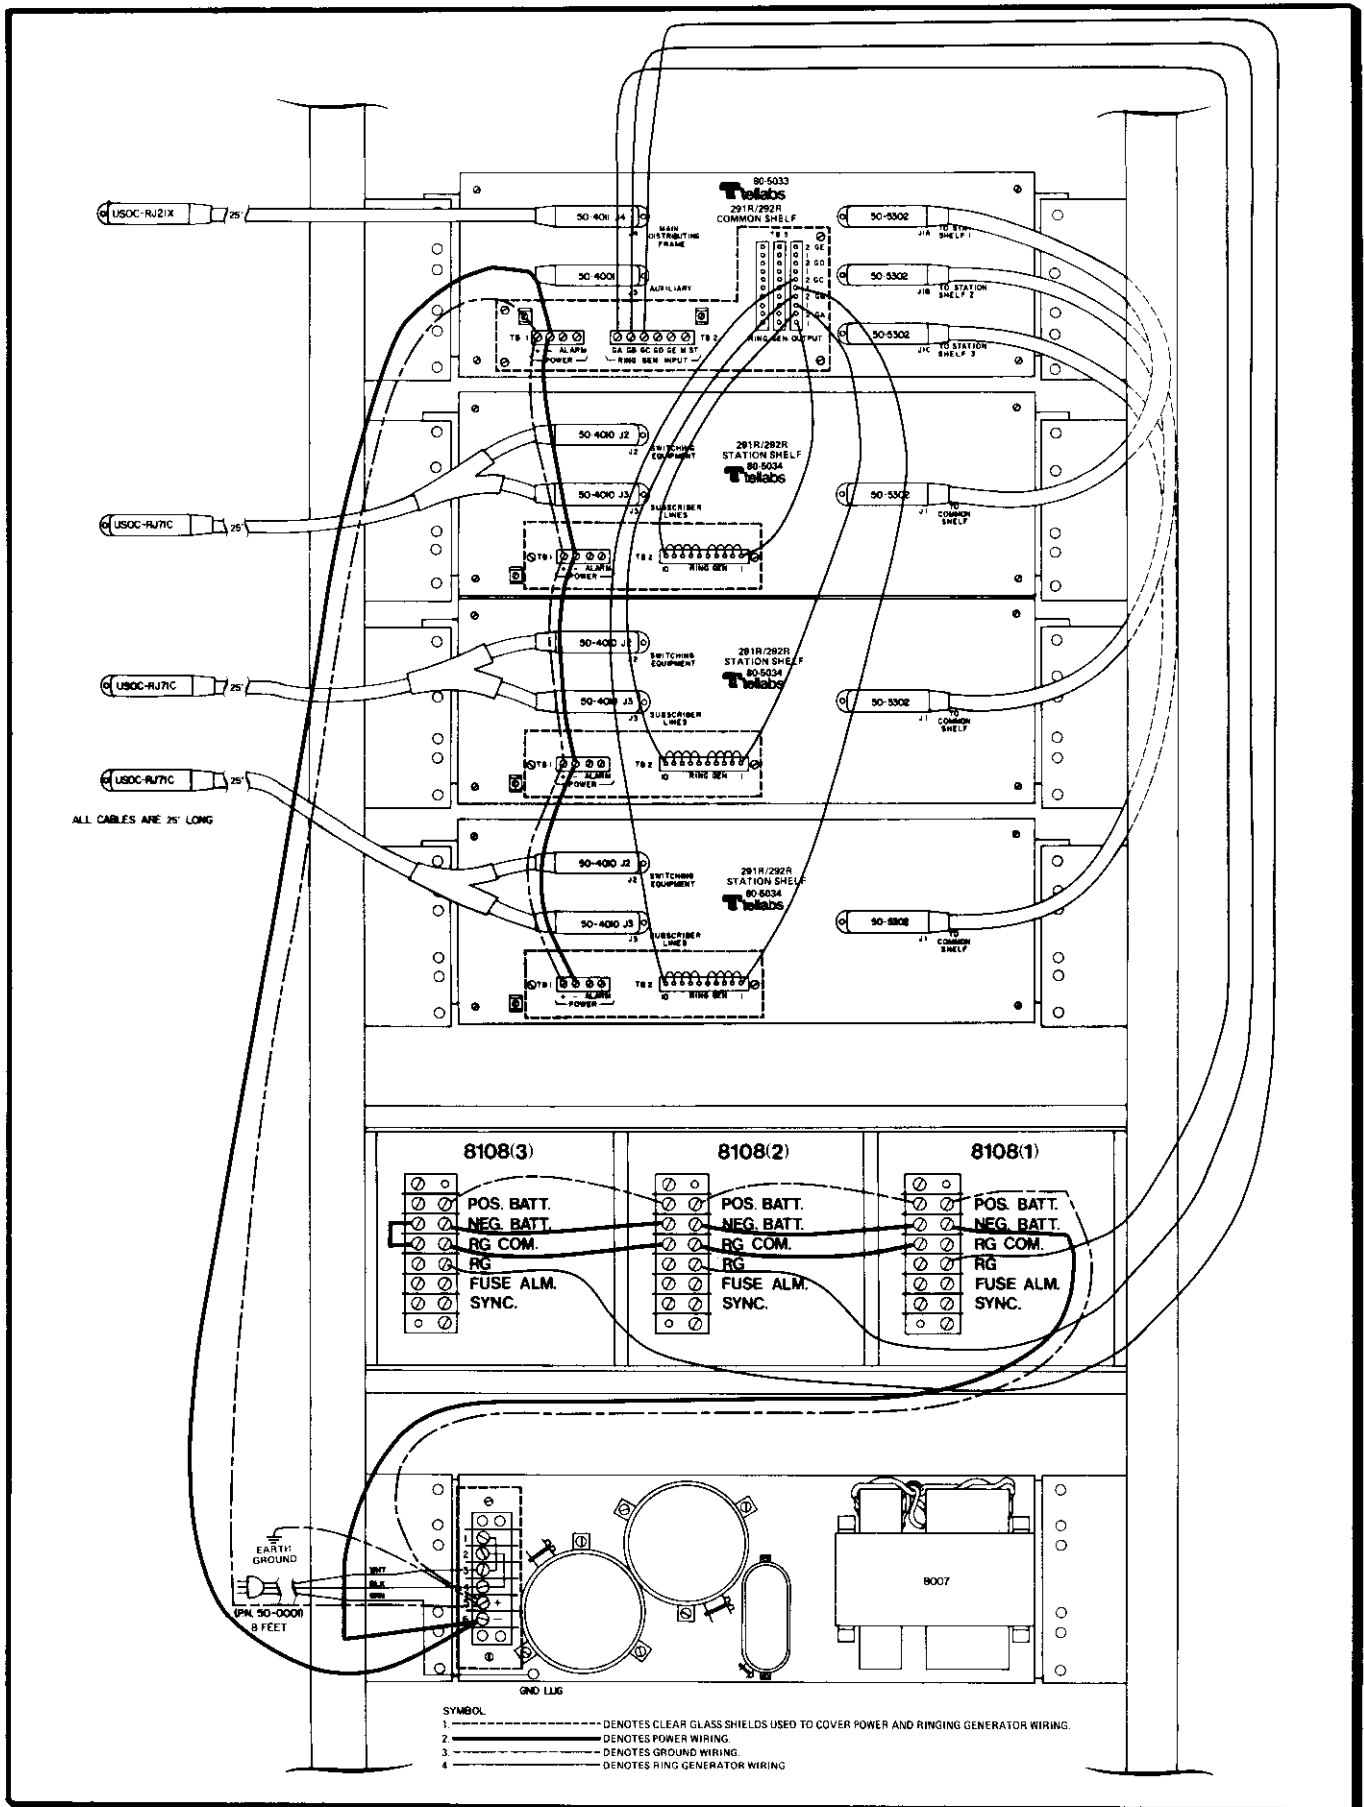

figure 16. Required power, ground, and ringing connections for 30-line 292R System
2.10 Before beginning the power wiring procedure below, ensure that input power is **not** applied to the power supply and/or ringing generators. Power must be applied only after all wiring is completed and all modules are properly optioned. Reference to figure 16 will aid in completing this wiring procedure.
2.12 Make the following connections between the 8108 20Hz Ringing Generators and the 80-5033 Common Equipment Shelf (reference to figure 16 will aid in completing this wiring procedure):